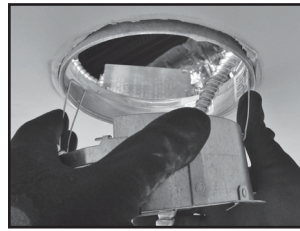

Figure 40.
8. Install LED engine and trim assembly by inserting torsion springs into spring receivers located inside retrofit ring assembly on two sides (Figure 40).
- Remove trim assembly from the housing (Figure 40).